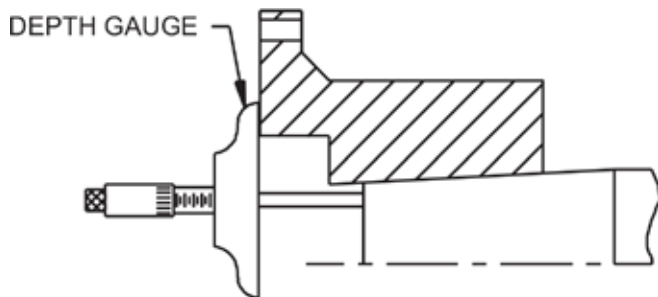

Figure 1. Measuring Hub Overhang
2.4 Clean the hub bore and shaft. For straight bores, proceed to step 2.6. For tapered bores, mount the hub hand-tight on the shaft and lightly rap it with a soft mallet to establish the initial line-to-line fit. This is the START position. With a depth gauge, measure the amount the hub overhangs the shaft end and record this value. See Figure 1.
2.7 Place the hub in the proper position on the shaft. Hold the hub in place as it cools. For tapered bores, verify the hub advance (see Figures 1 and 2) and install the shaft retaining nut. Remove the split collar from the shaft.